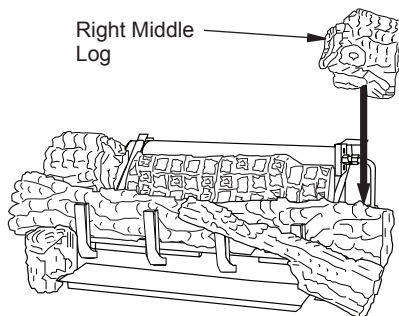

Figure 30 - Installing Right Middle Log
6. The right middle log (18" D-067, 24" & 30" D-041) has a groove on the bottom to sit on the chassis and has to sit on the tab on the back of the right front. The right middle log should have a recessed area that fits around the ramp log as shown in Figure 30.